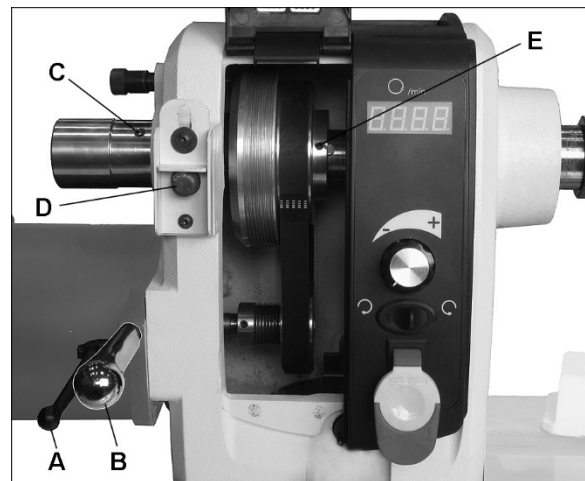

Figure 9-12
The motor and spindle pulleys are aligned with each other by the manufacturer, but if any service is performed that affects their alignment it is very important that they be realigned. Engage spindle lock, loosen two set screws on spindle pulley (E, Figure 9-12) with 3mm hex key, and slide spindle pulley into proper position. Retighten set screws and disengage spindle lock.
See Figure 9-12.
2. Loosen pivot lock handle (A, Figure 9-12) and lift up tension handle (B) to raise motor.
3. Tighten pivot lock handle (A) to secure motor in raised position.
5. Loosen two set screws on handwheel (C).
6. Engage spindle lock (D) and unscrew handwheel from spindle (left-hand threads, clockwise to loosen).